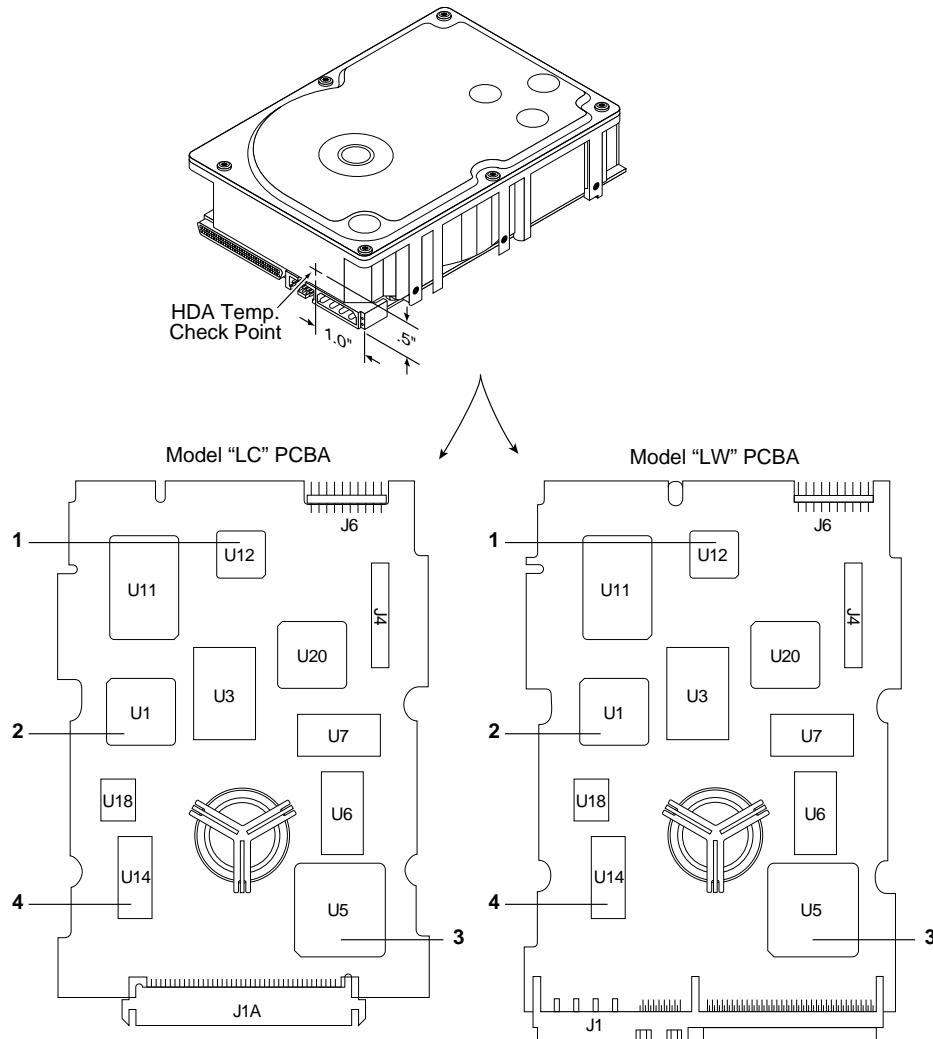

Figure 8. Locations of PCBA components listed in Table 3
- [2] Measure HDA temp at point labeled “HDA” on Figure 8.